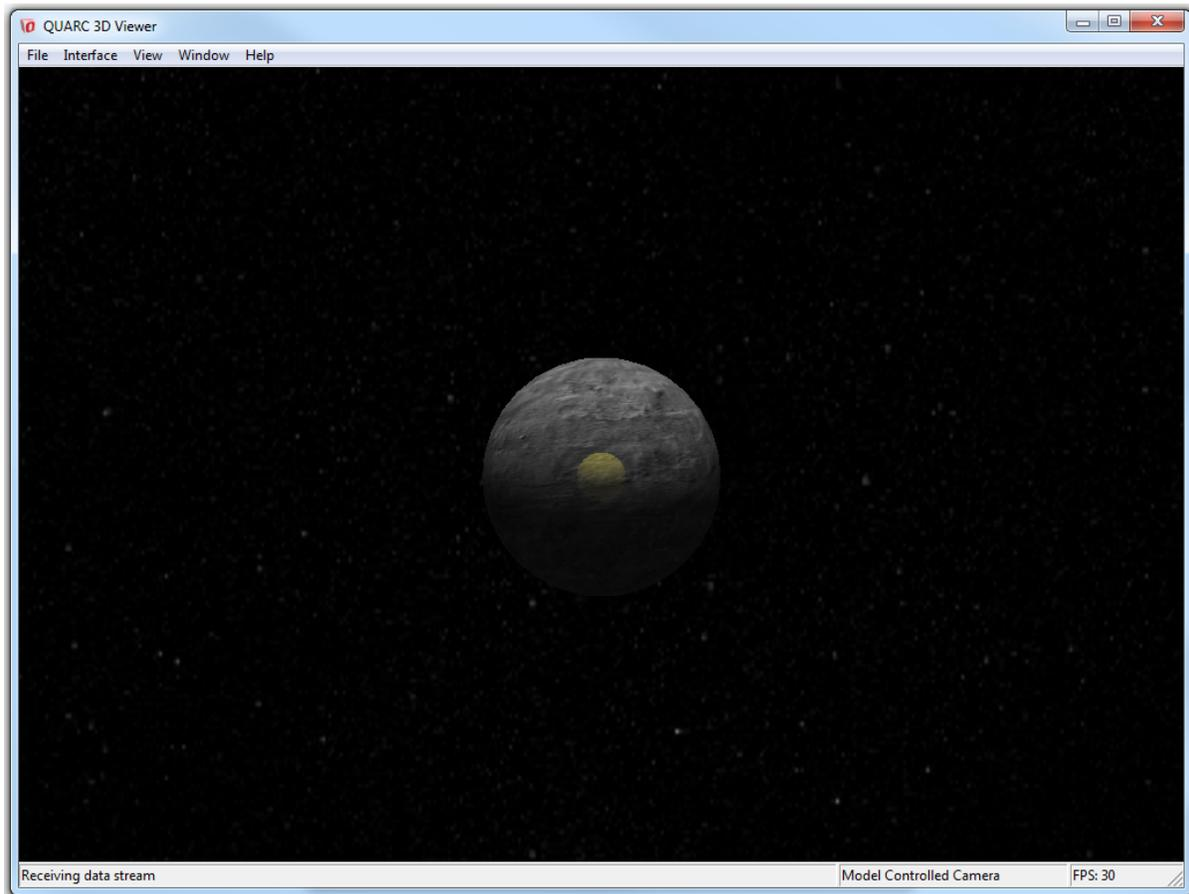

Figure 10.3: Virtual world animation
8. Click on the *Animate* button to preview the environment. The scene should resemble Figure 10.3. Click *OK* to close the *Visualization Initialize properties* window.